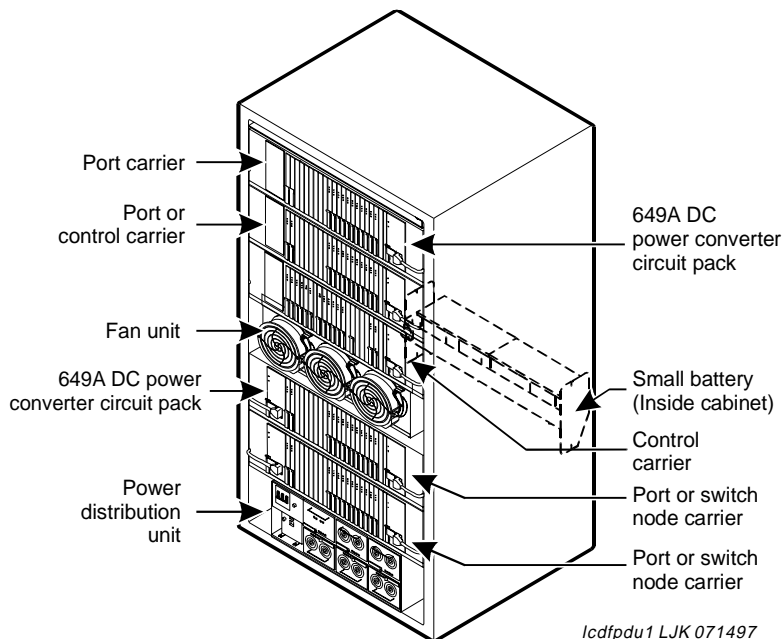

Figure 28. Power Distribution in Multicarrier Cabinets
Figure 28 shows the power distribution in some Multi-Carrier Cabinets with short term battery holdover (small battery). In R7r and later systems, the power distribution cables are on the right hand side of the cabinet only. This is because the 649A DC power converter circuit pack replaces 2 power converters at either end of each carrier. Switch node (SN) carriers require two 649As and 2 cables.